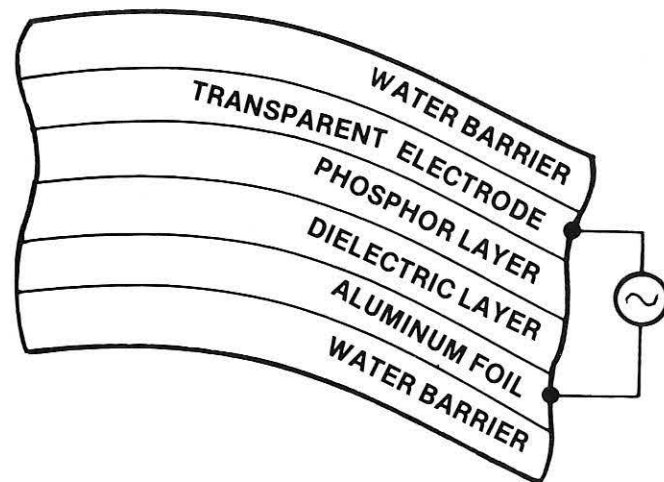

Figure 2. Typical structure of flexible ac EL powder lamp manufactured by Sylvania.
**1.1.2 Flexible Plastic Lamp:** A typical structure is shown in Figure 2. The substrate is a thin aluminum foil coated on a roughened side with a suspension of barium titanate in a cyanoethyl cellulose. The activated ZnS phosphor powder is also suspended in the cyanoethyl cellulose plastic dielectric. This is followed by a transparent conductive coating serving as the top electrode. A water barrier protective coating is finally applied on both sides of the Al foil.